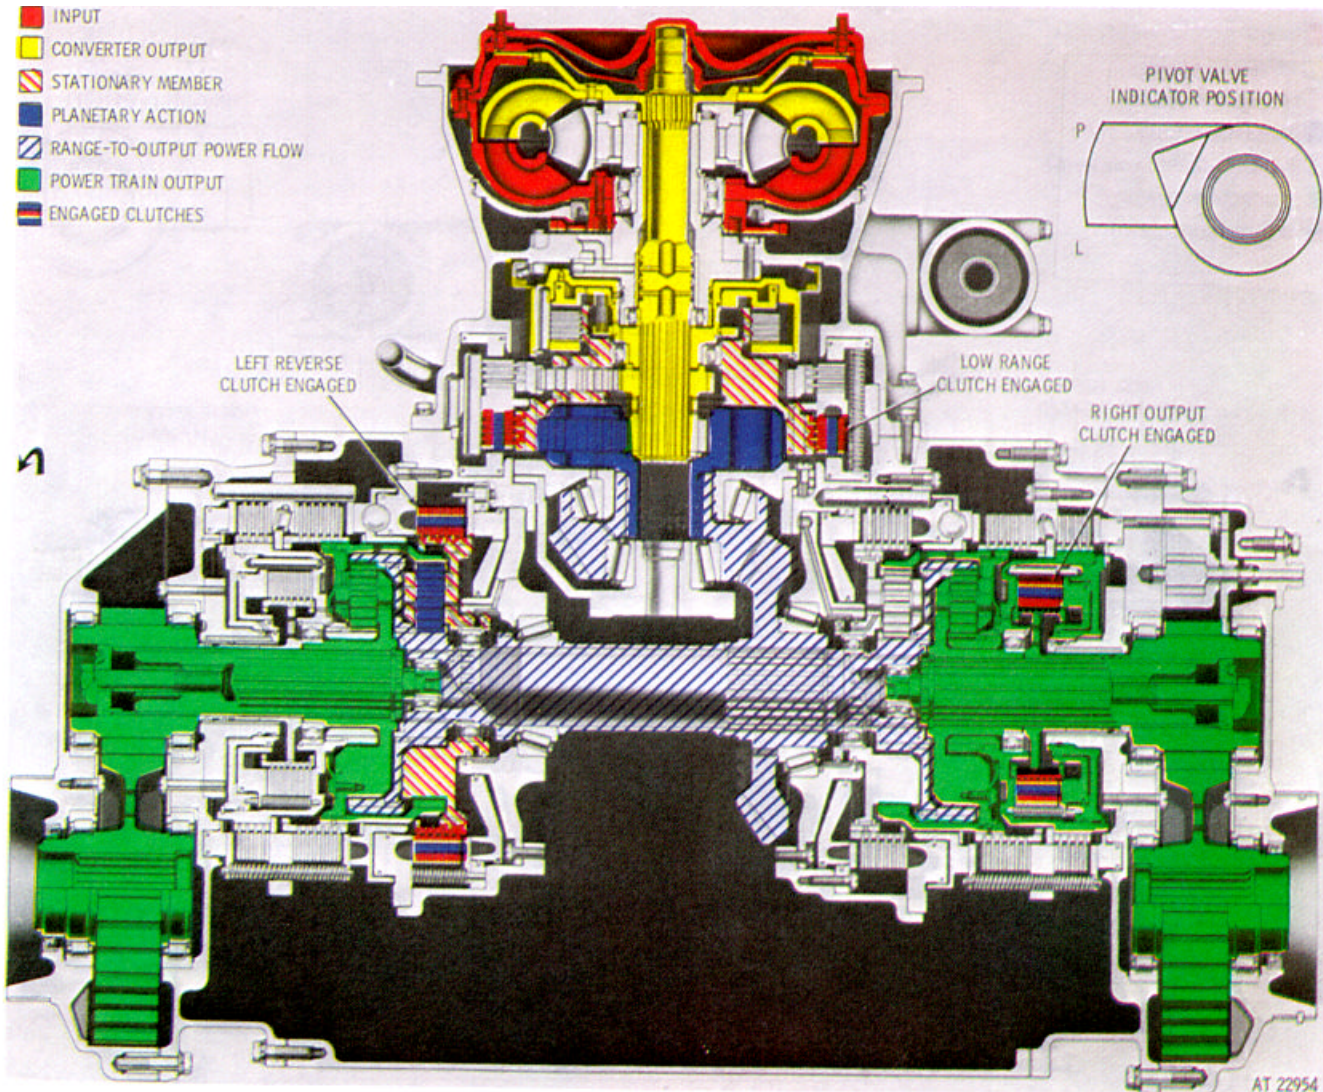

Figure 2-28. Second gear, pivot left steer operation-torque path.
b. Second Gear, Pilot Left Steer (fig. 2-28).